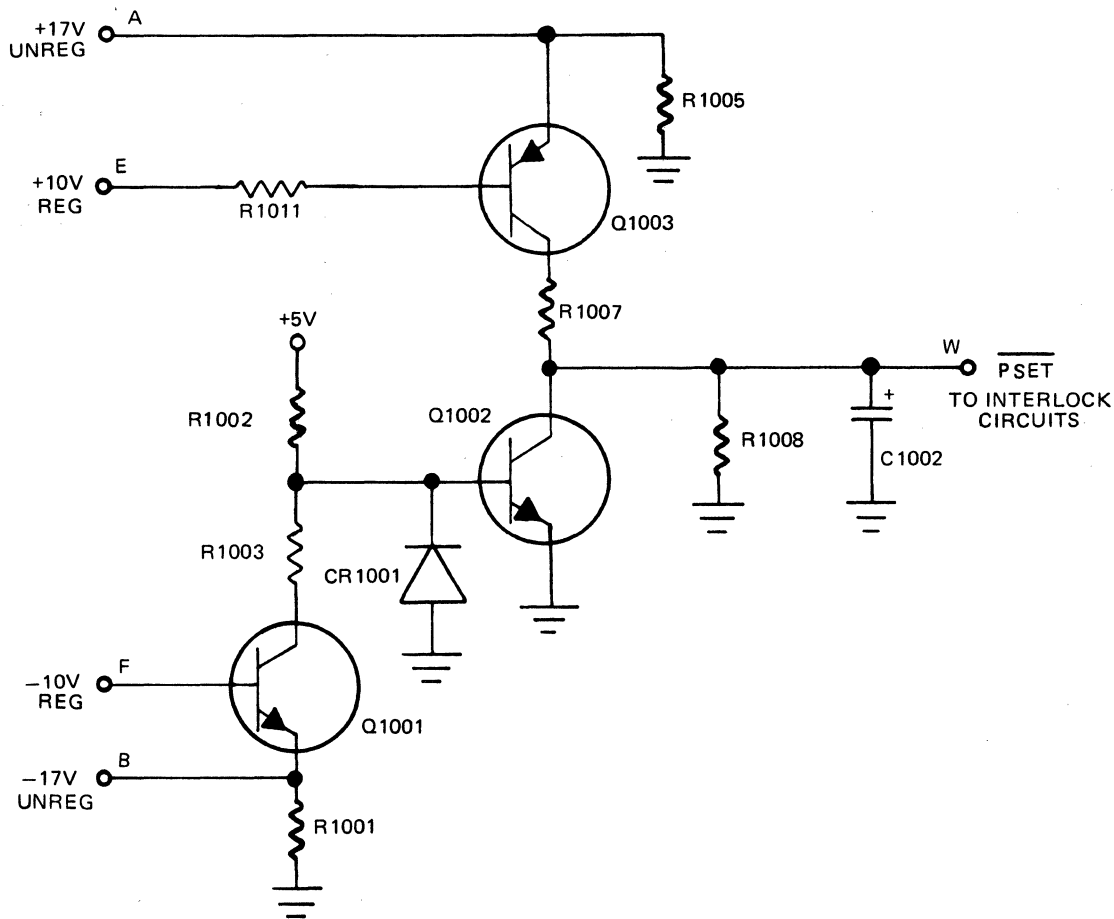

Figure 4-8. Power Reset Circuit Simplified Diagram
Figure 4-8 shows a simplified diagram of the power reset circuit. The circuit consists of Q1001, Q1002, Q1003 and associated components. The emitter of Q1003 is connected to +17 volts, and the base is connected to +10 volts through R1011. Under these conditions, Q1003 conducts at saturation, causing the collector to be near +17 volts and the voltage on the $\overline{\text{PSET}}$ output (W) at approximately +3 volts (logic high). However, if the +17 volts falls or +10 volts rises, and the V_{be} of Q1003 becomes less than 0.6 volt, transistor Q1003 turns off and $\overline{\text{PSET}}$ becomes a logic low.